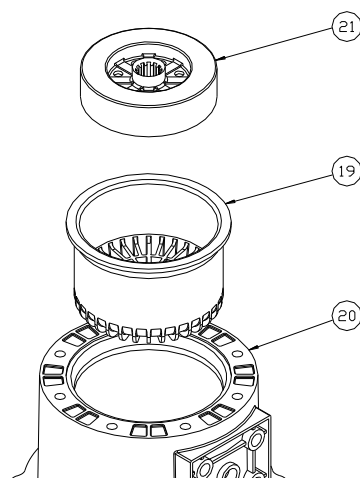

Figure 40
2. For non-metallic pumps, insert containment can (item 19) and driven magnet (item 21) into motor spool (item 20) as shown in Figure 40. The driven magnet is symmetrical, and orientation does not matter.